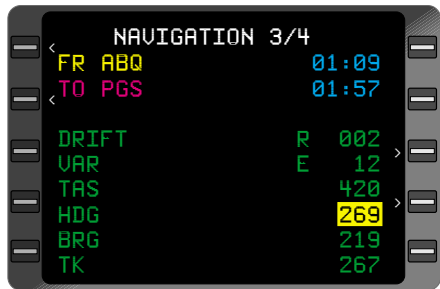

Figure 3-199
2. **Line Select** Key - DEPRESS to place the cursor over **HDG** field. The last valid heading value appears. (Figure 3-199)